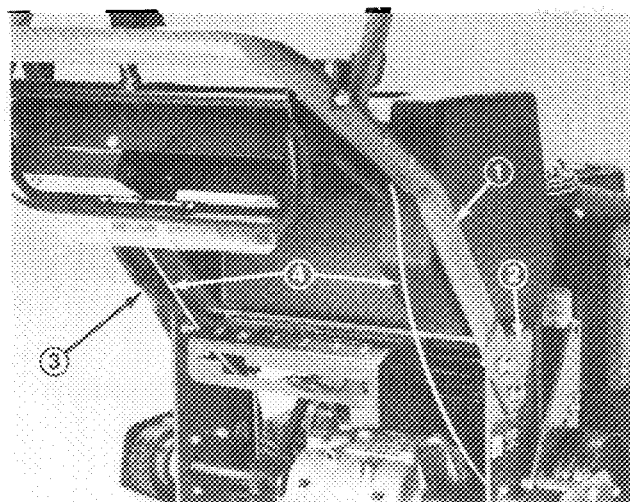

Figure 4
1. Align upper handle mounting holes with desired mounting holes in frame (upper or lower set of holes) and secure each side with (2) 3/8 - 16 x 1" lg. flange capscrews and flange nuts. Torque capscrews to 23-27 ft.-lbs. Route cables and wire harness inside of frame (Fig. 4).